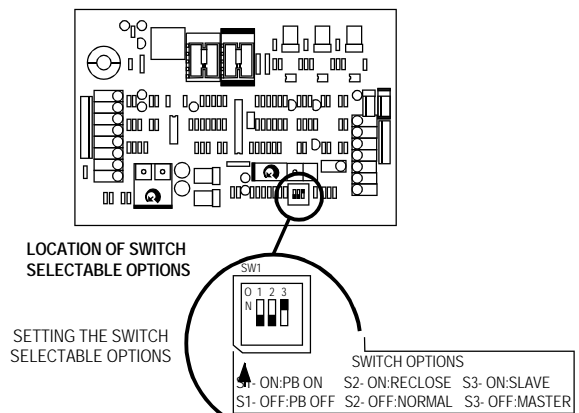

Figure 13
- (1.) Place switch #3 on the master operator's P.C. board in the "OFF" position (See Fig. 13).
- (2.) Place switch #3 on slave operator's P.C. board in the "ON" position. (See Fig. 13).
Provision has been made to change the control station operational mode to one that would only be activated when the entrapment sensing system is in stop mode; with the warning horn activated. This would give a person access to control of gate in an emergency situation, but it would be inoperative under normal circumstances. To activate this option, move switch #1 to the "ON" position (See Fig. 13).
Note: If TIMER TO CLOSE option is required after a non-contact sensor is activated, move switch #2 to "ON" position. If the application requires that the timer activate only from the fully opened position, switch #2 should be in the "OFF" or NORMAL position (See Fig. 13).